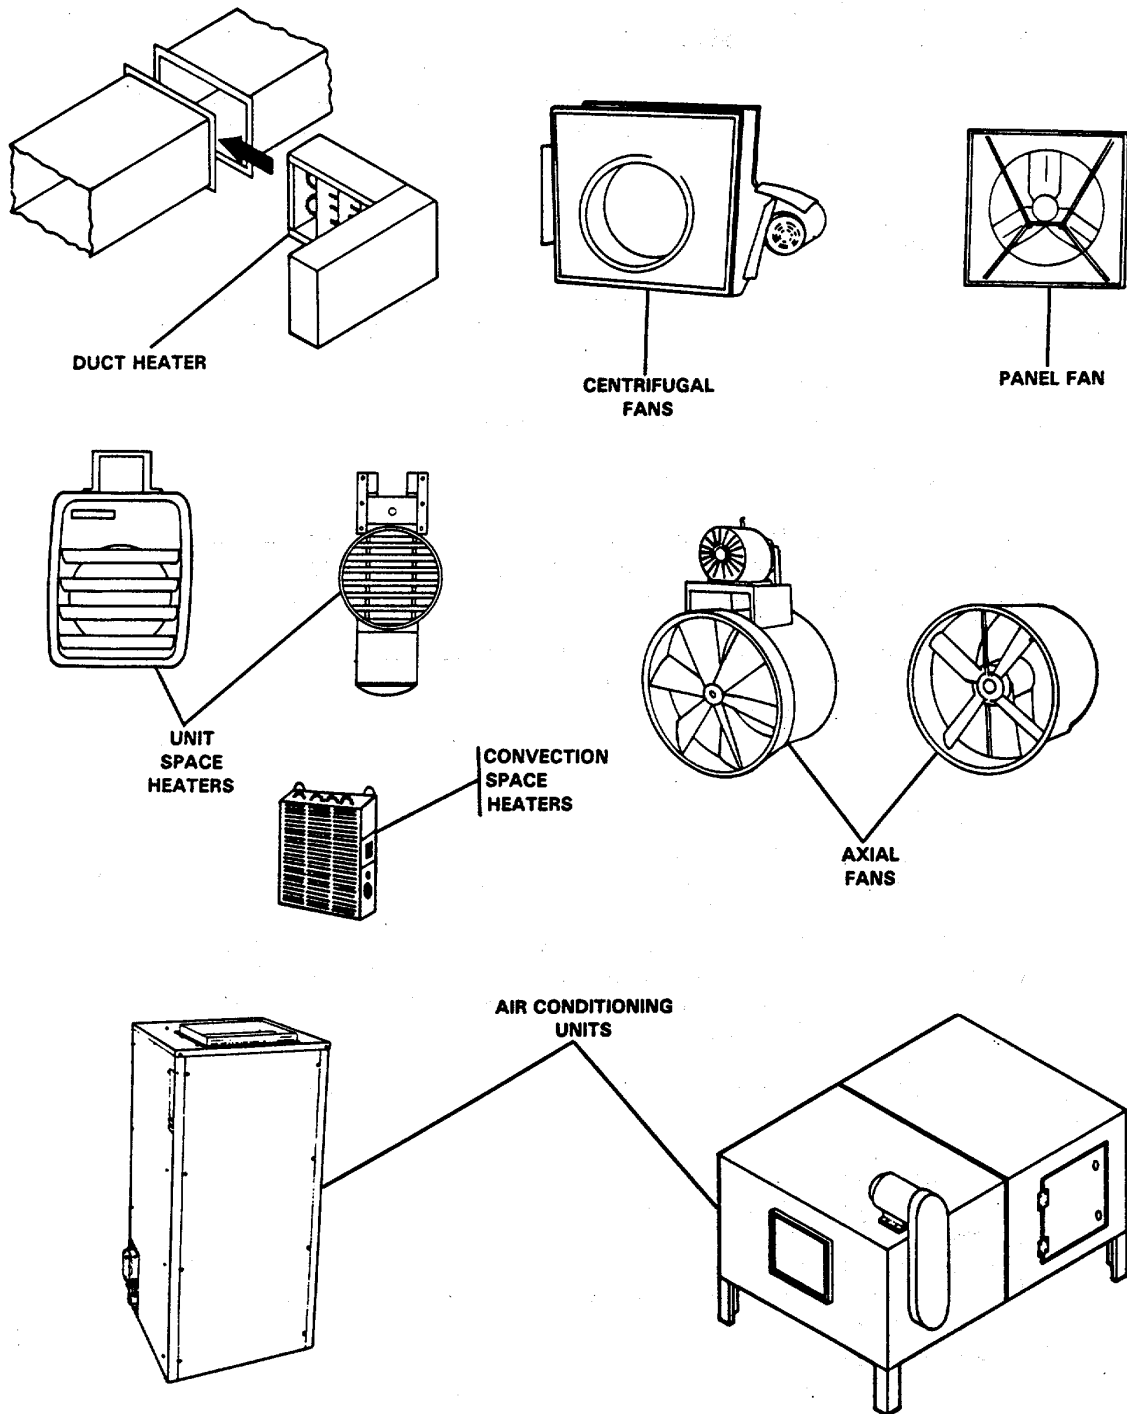

Figure 1-1. Major Components in Environmental Subsystem (HVAC).
- 1-7. Characteristics, Capabilities, and Features.** The environmental control subsystem equipment, shown in FIGURE 1-1, is the equipment required to heat, ventilate, and air condition the living and working spaces aboard the vessel.
- (1) Duct Heaters
**1-8. Location and Description of Major Components.** FIGURE 1-1 shows the major components in the environmental control subsystem. Tables 1-1 thru 1-6 list components, areas served, and electrical specifications of the components in the system. For the locations of ducting, duct component, and remote mounted controls, refer to TM 55-1905-223-10.